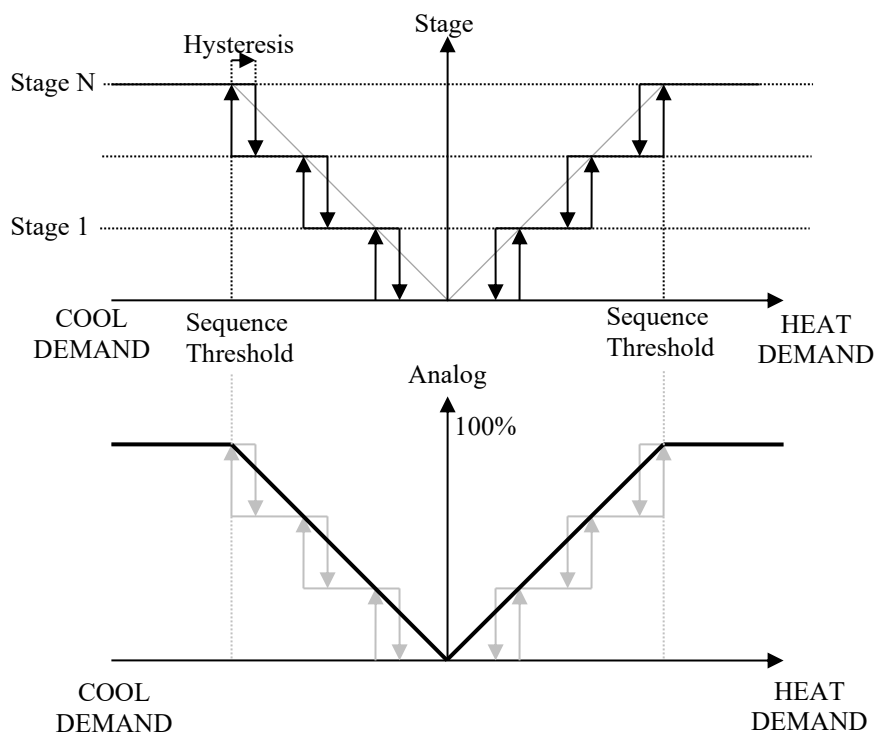

Figure 28: Fan coil sequencing based on heating/cooling demand, scaled before the sequence threshold
- Before Threshold (0): Scaling before the sequence threshold, see Figure 28